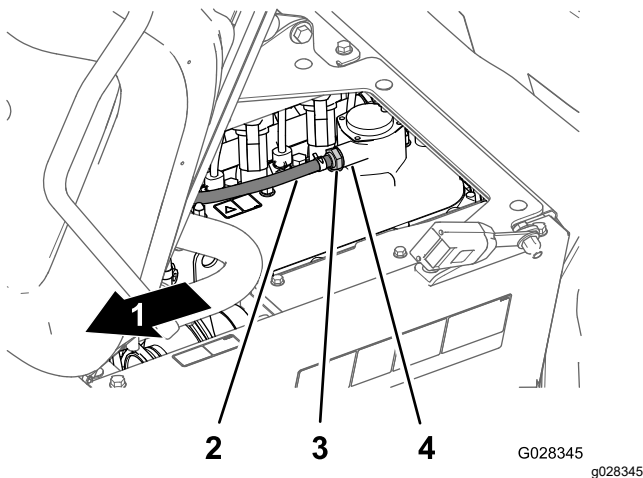

Figure 69
2. Remove the PCV valve from the fitting of the valve cover (Figure 69).
Note: If the internal restrictor of the valve rattles, the PCV valve is serviceable; if the internal restrictor is not free to rattle when shaken, replace the PCV valve (Figure 69).
4. Insert the PCV valve until it is fully seated in the seal for the valve-cover fitting (Figure 69).